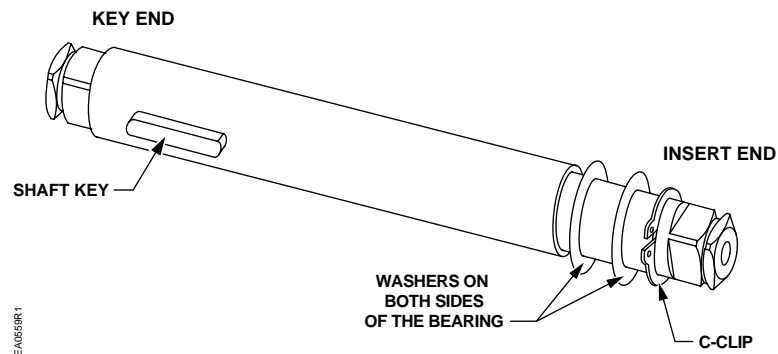

Figure 4.
3. Each shaft is supplied with two washers and a "C" clip. See *Figure 4*. Using spreading pliers, remove the "C" clip and the washers from the shaft.